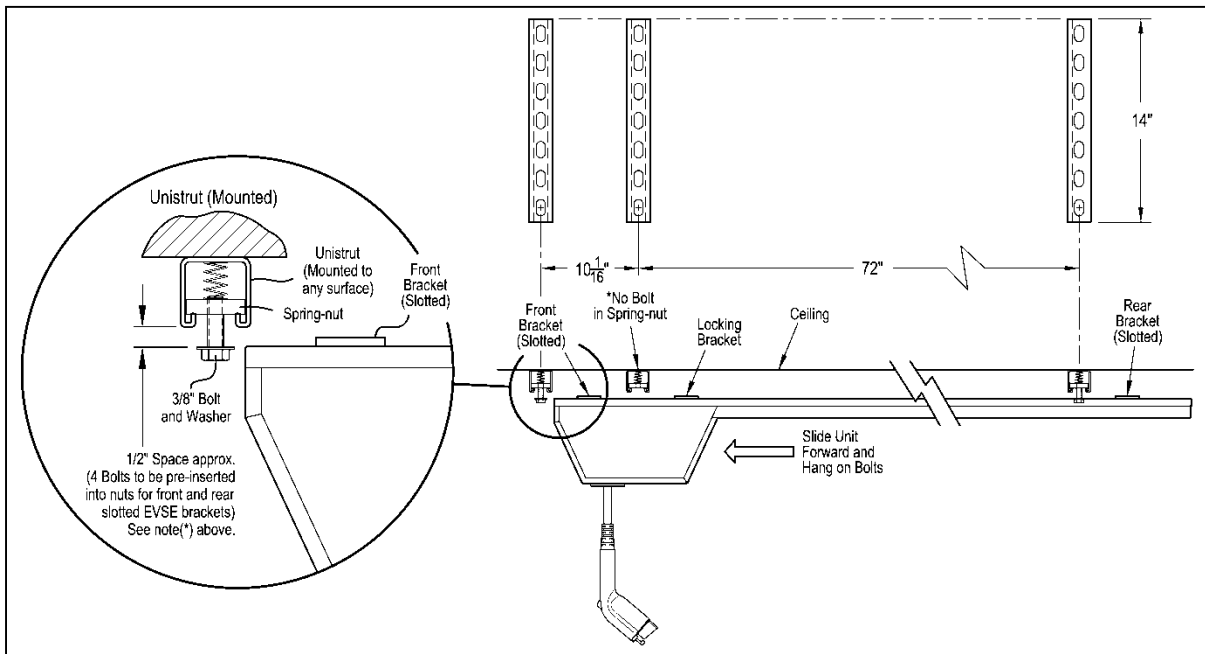

Figure 6
1. If necessary, cut the Unistrut material into three (3) 14 inch sections, or as required per installation.
2. Layout an appropriate hole pattern on the ceiling according to the dimensions in **Figure 6**. Drill pilot holes if necessary.
3. Secure the three Unistrut sections to the ceiling using appropriate hardware (not included). The recommended concrete fastener is a Simpson strong tie p/n DIA 375 or equivalent. Note the minimum holding force required is 500 lb. per fastener and two (2) fasteners per 14 in. section are required.
2. Select six (6) 3/8 in. bolts with washers and insert two (2) into both the front and rear spring nuts in the Unistruts. Do not insert bolts into the middle Unistrut at this time. Leave a gap of 1/2 inch between the head of the bolts and the Unistrut side channels (**Figure 6**).
4. Lift the EVSE Unit into a position level with the ceiling – aligning the open slots with the protruding bolt heads (**Figure 6**).
5. Slide the unit in the direction of the protruding bolt heads until the slots of the mounting brackets butt-up to the shanks of the protruding bolts. (**Figure 6**). Snug up these four bolts.